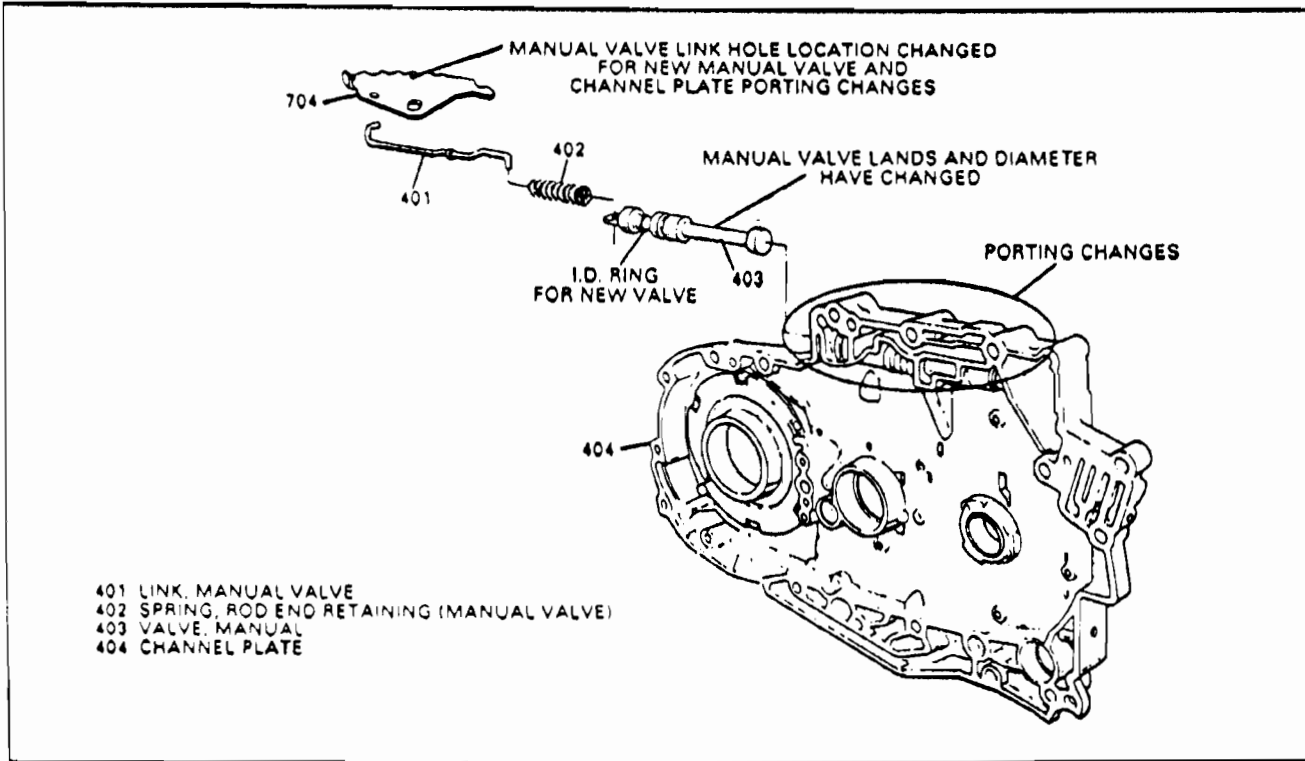

Figure 22
- (1) **NEW CHANNEL PLATE** - Will have porting changes for the new manual valve and new inside detent lever. The porting changes will help ensure that the 2 ports will never be opened at once to cause burnt 4th clutch assembly. The bore for the new manual valve will be reduced by .010" to accommodate the new manual valve. This will make the previous and new parts non-interchangeable (See Figures 22 and 23).